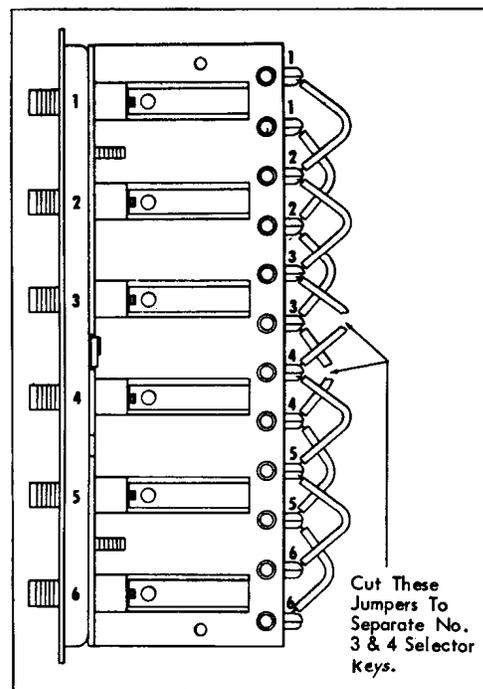

Figure 4 - Top View of Key Panel Showing Looped Jumper Wires
5.09 When all connections have been made, remove the selector key panel from the front of the unit. Cut the looped common white jumper wires connecting the selector keys between the last "S" circuit master station and the first "M" circuit master station. Insulate and bend these wires to one side (see Figure 4). It should be remembered that all selector keys assigned to zero-level master stations are "M" circuit. The cutting of the jumpers is necessary in order that "S" circuit operation between master stations can be obtained if desired.